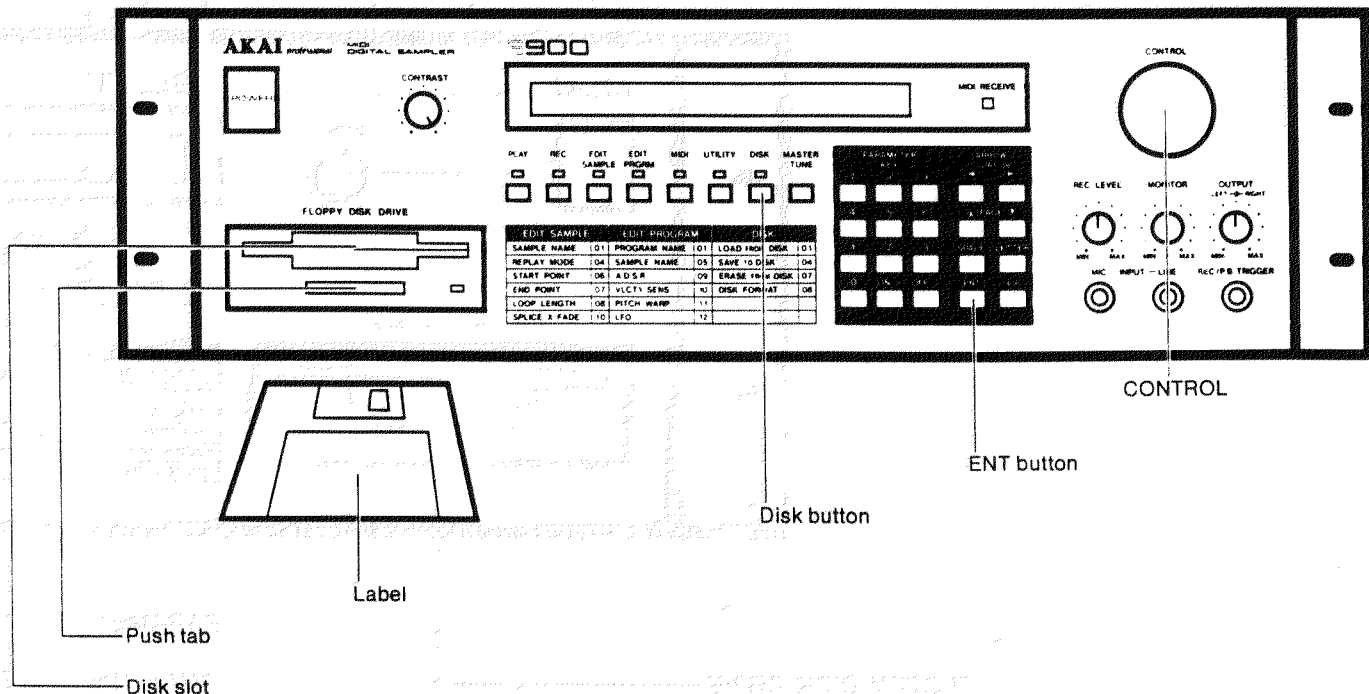

Fig. 1
1. Insert a factory sound disk as shown in Fig. 1. Push gently until the disk locks in place. A push tab will pop out from below the disk slot after the disk is inserted. When you want to change disks, push on the tab and the disk will pop out.
7. Note that there are eight function buttons below the LCD. The second one from the right says "DISK." Press this button (Fig. 1).
8. Note the matrix of buttons shaded in gray and located under the right side of the LCD. Press the ENT button (bottom row, second from the right) (Fig. 1).
2. Insert a blank, double-sided 3.5" disk as shown previously in Fig. 1. Push gently until the disk locks in place.